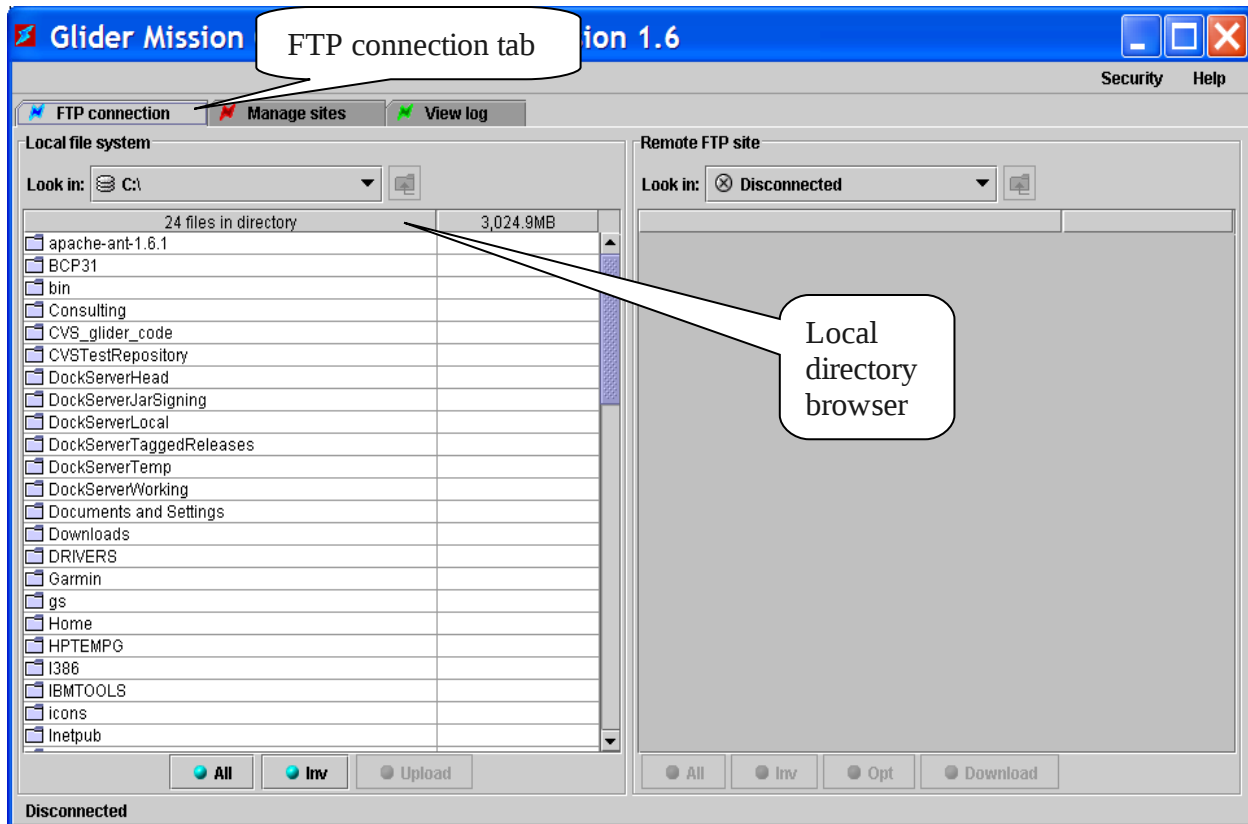

Figure 11-4. GMC FTP Main Window.
Once added to your desktop, the GMC FTP application launches and its main window appears (Figure 11-4).
1. Double click the desktop icon labeled “GMC FTP Utility” or select the item labeled “GMC FTP Utility” from the “All Programs” menu (Windows XP). The GMC FTP window should appear (Figure 11-4).